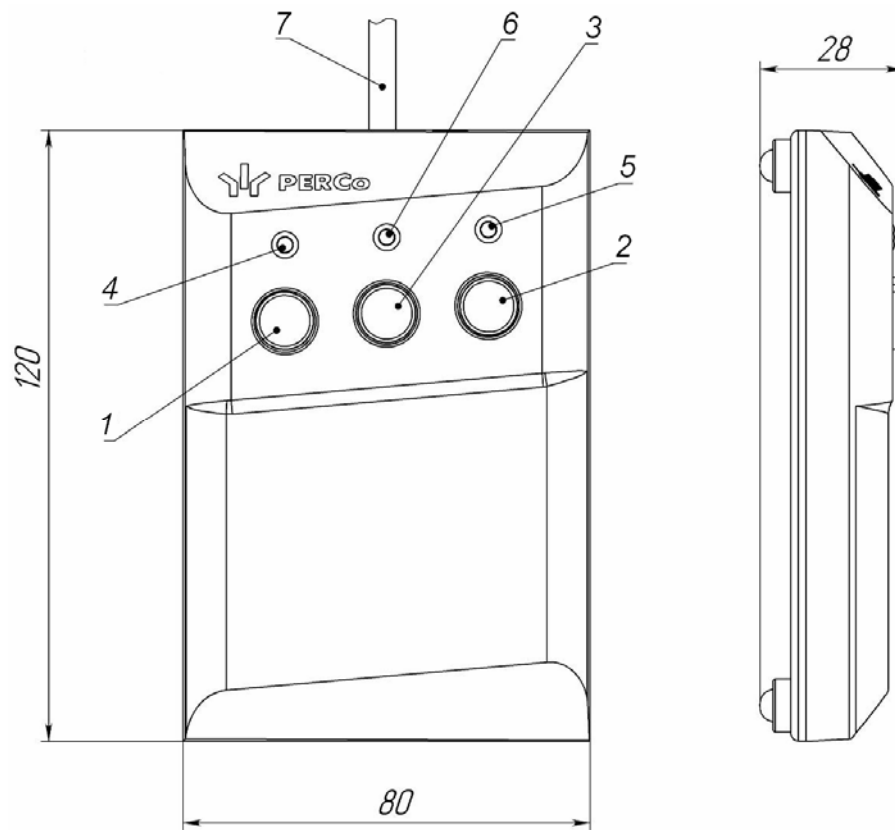

Figure 4. General view and dimensions of the RC panel
The RC panel (17) is a small table device made of shockproof ABS plastic that serves for manual setting of the operating modes and indication thereof. RC panel is connected to the control board (6) with flexible multicore cable (14), included into delivery set. The general view of the RC panel is shown in Figure 4.